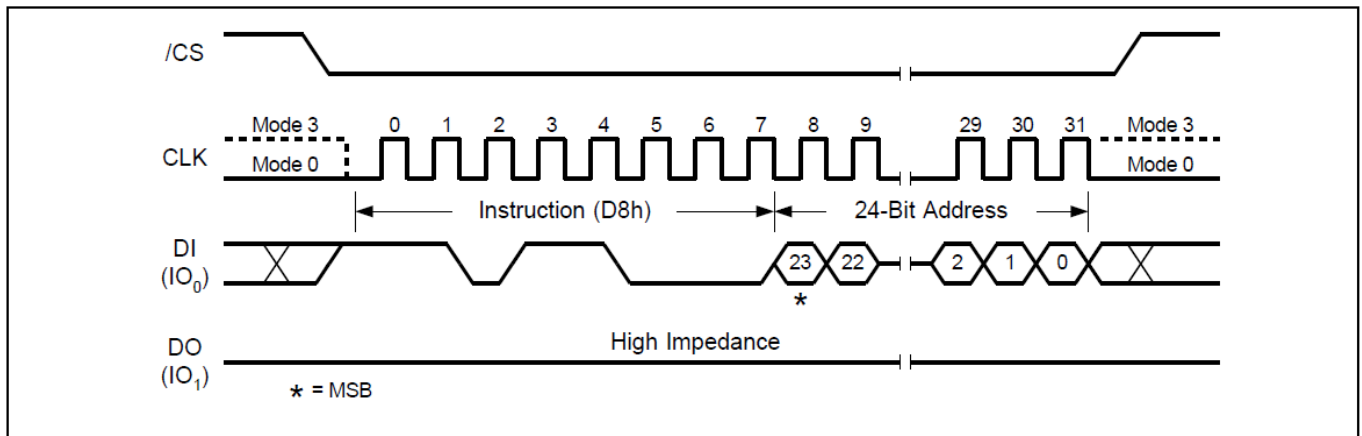

Figure17. 64KB Block Erase Sequence Diagram
The 64KB Block Erase command sequence: CS# goes low → sending 32KB Block Erase command → 3-byte address on DI → CS# goes high. The command sequence is shown in Figure 17. CS# must be driven high after the eighth bit of the last address byte has been latched in; otherwise the 64KB Block Erase (BE) command is not executed. As soon as CS# is driven high, the self-timed Block Erase cycle (whose duration is Tse) is initiated. While the Block Erase cycle is in progress, the Status Register may be read to check the value of the Write in Progress (BUSY) bit. The Write in Progress (BUSY) bit is 1 during the self-timed Block Erase cycle, and is 0 when it is completed. At some unspecified time before the cycle is completed, the Write Enable Latch (WEL) bit is reset. A 64KB Block Erase (BE) command applied to a block which is protected by the Block Protect (CMP, SEC, TB, BP2, BP1, and BP0) bits is not executed.